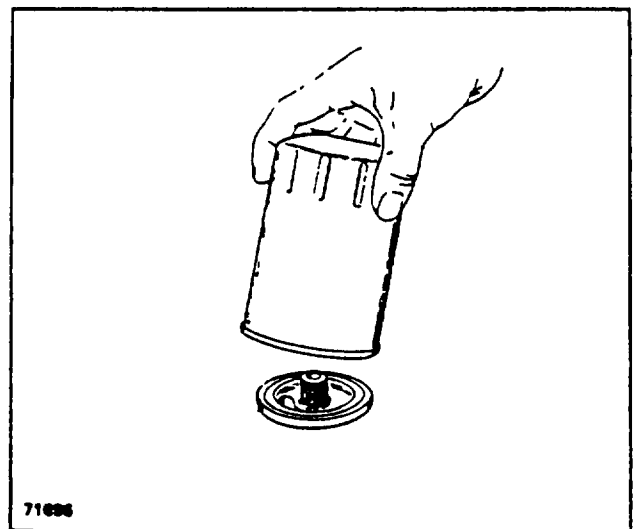

Figure 6. Oil Filter Removal
1. Remove and discard filter cartridge and clean out all oil residue in filter base mount (Figure 6).